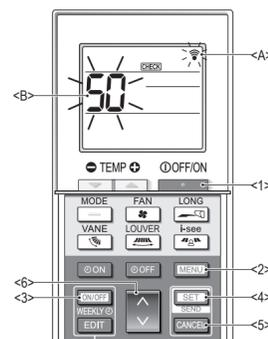

Fig. 6-3
- Press the **MODE** button <6> to set the unit number of the indoor unit. (Fig. 6-3)
- Press the **MODE** button <6> to set the mode number. (Fig. 6-3)